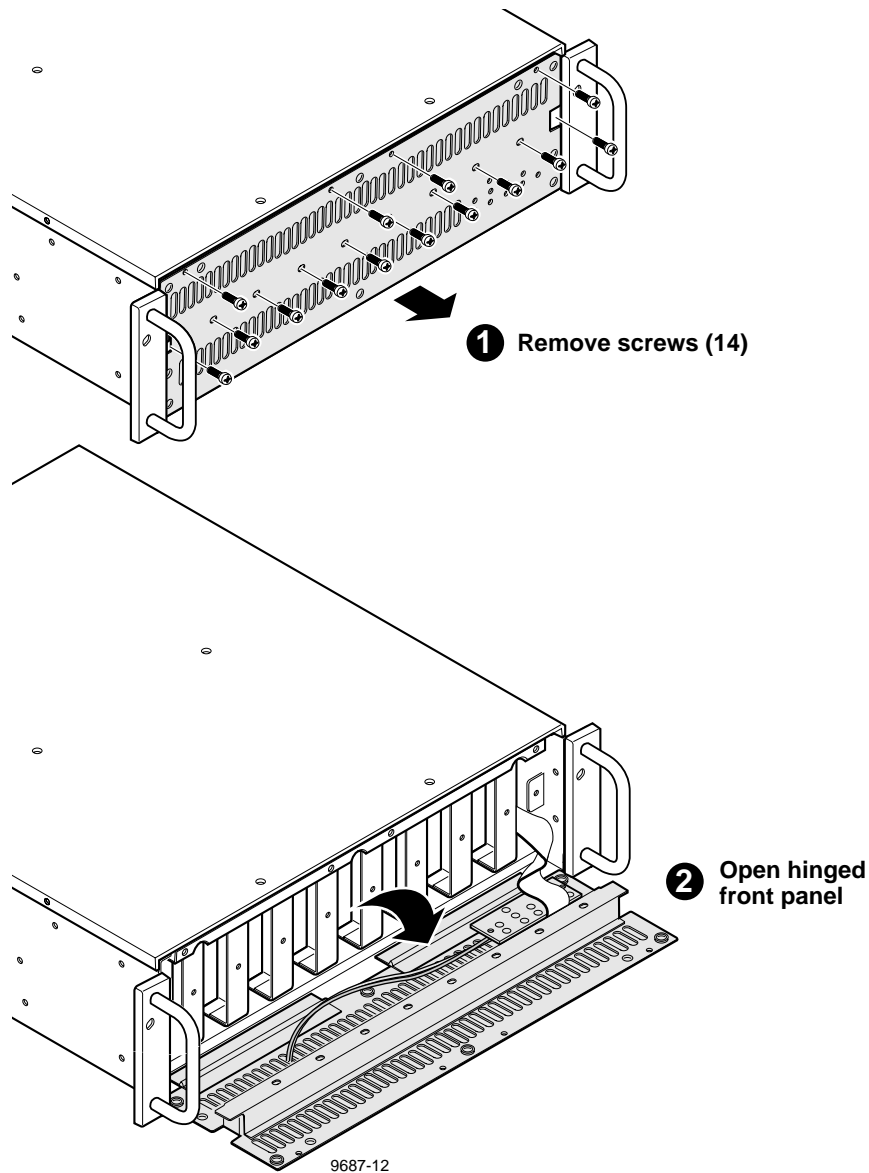
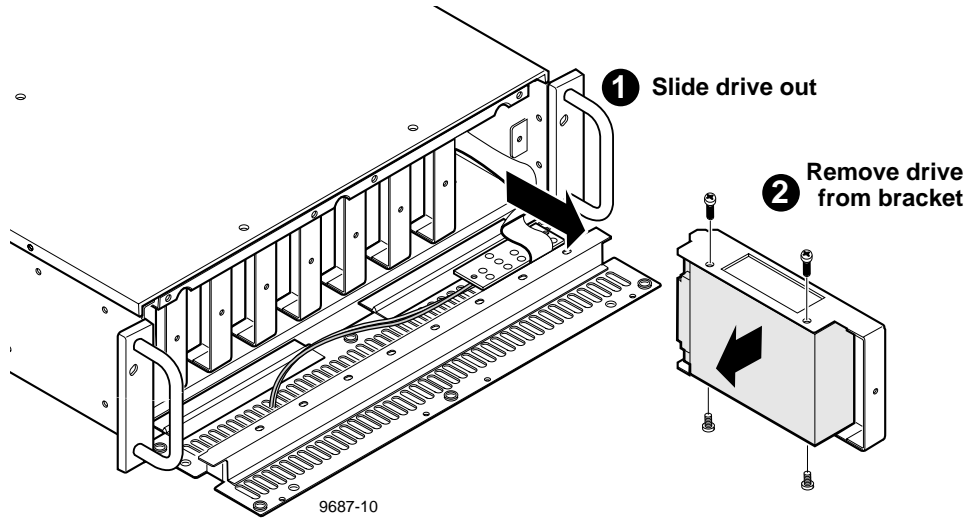

Figure 3-4. Lowering the Front Panel
Figure 3-5. PDX208 Disk Drive Caddy and Disk Drive Removal
A disk drive caddy holds each disk drive in place (items 4 and 5 in Table 3-1). If in troubleshooting the PDX208, a disk drive is determined to be bad, the hinged front panel must be loosened and lowered, and the appropriate caddy must be removed before the disk drive can be removed and replaced. It is not necessary to remove the PDX208 from the rack to perform this procedure. See Figure 3-4 to lower the front panel and Figure 3-5 to remove the caddy and disk drive.
2. Remove the retaining screws from the front panel. (Figure 3-4) (These are also caddy retaining screws.)
4. Grasp the appropriate caddy, pull straight out of the chassis, and place on a level, static-proof surface (Figure 3-5).
1. Mount the new drive in the caddy using the screws previously removed from the caddy (Figure 3-5).
3. Raise the front panel and secure it with the screws previously removed (Figure 3-4).
2. Remove the retaining screws from the front panel. (Figure 3-4) (These are also caddie retaining screws.)
3. Raise the front panel and secure with the screws previously removed (Figure 3-4).
4. Raise the front panel and secure with the screws previously removed (Figure 3-4).
2. Remove the retaining screws from the front panel (Figure 3-4). (These are also caddie retaining screws.)
4. Remove the front panel retaining screws and lower the front panel (Figure 3-4).
5. Remove all disk drive caddies (Figure 3-5).
3. Install all disk drive caddies (Figure 3-5) previously removed.